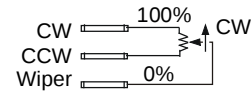

Figure 9: Wiring Diagrams for the M9104 Series
The M9104 actuator requires a 24 VAC control signal and is compatible with a variety of controllers. (See Figure 9.)
3. Insert the cable wires through the plastic plug, compression fitting, or conduit fitting, and connect to the terminals using the appropriate wiring diagram in Figure 9.
Note: At this point, the normally closed contact closes, and the normally open contact opens. (See Figure 9, *Auxiliary Switches*.)
Note: At this point, the normally closed contact opens, and the normally open contact closes. (See Figure 9, *Auxiliary Switches*.)